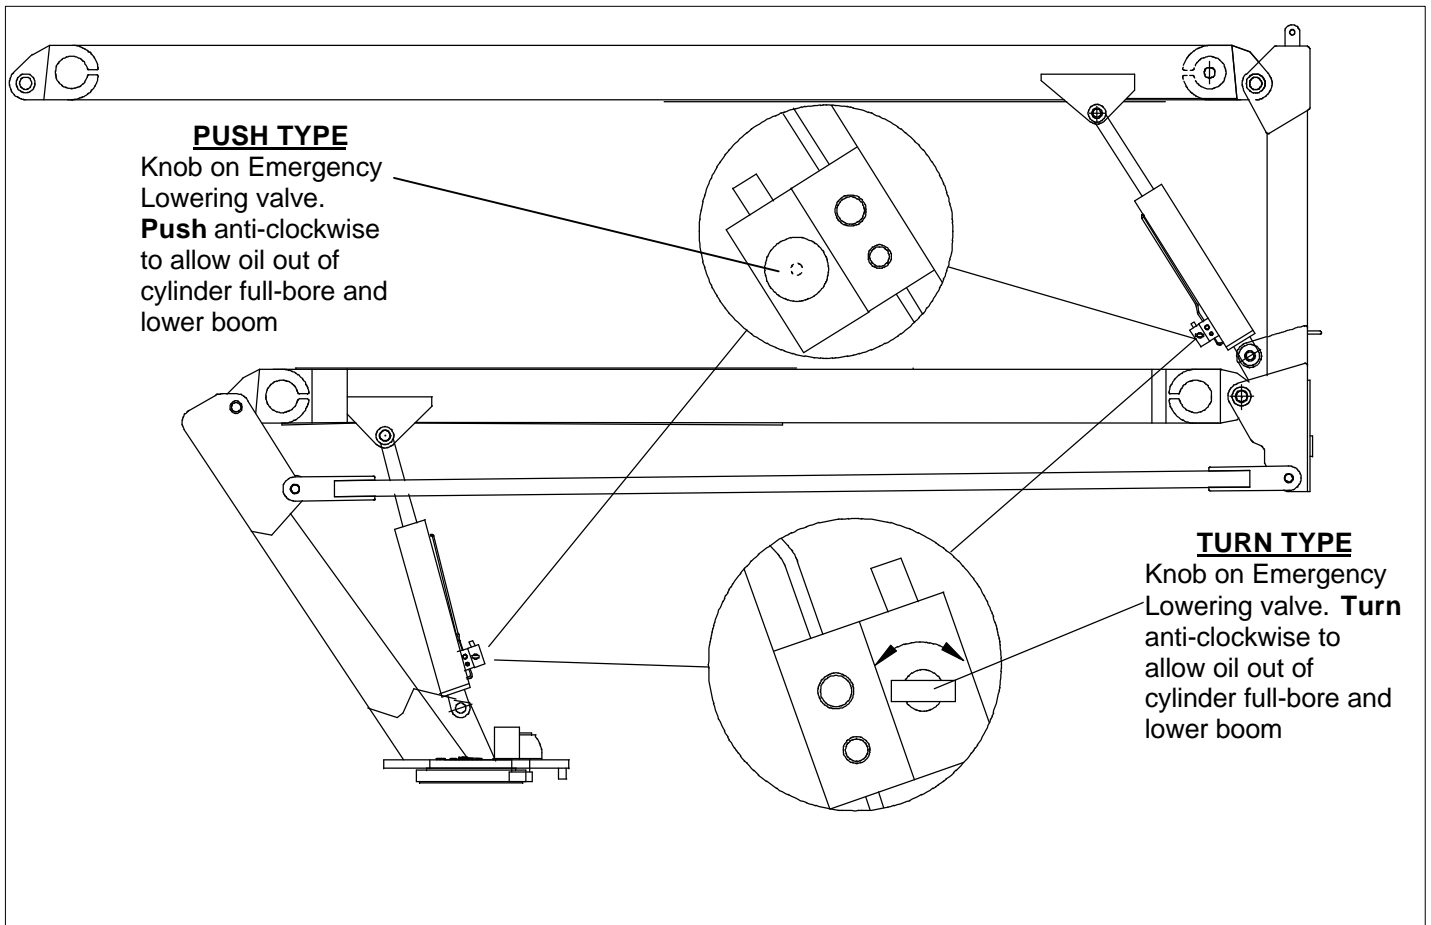

Figure 3-4: Emergency Lowering Valves
2. These are red knobs (twist or push type) mounted at the base of the hydraulic lift cylinders (See Figure 3-4). Operate the lower boom first by turning slightly in an (pushed) - ensure rate of descent is kept slow and under control.